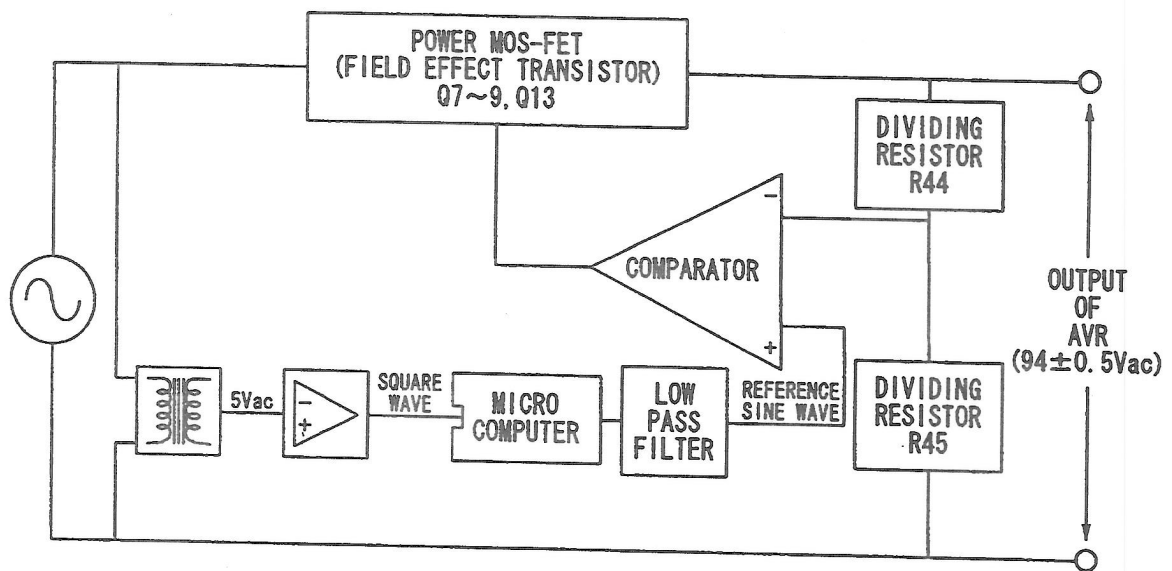

FIGURE 1. Block diagram of AVR circuit
2. Block diagram of AVR circuit is described in FIGURE 1.